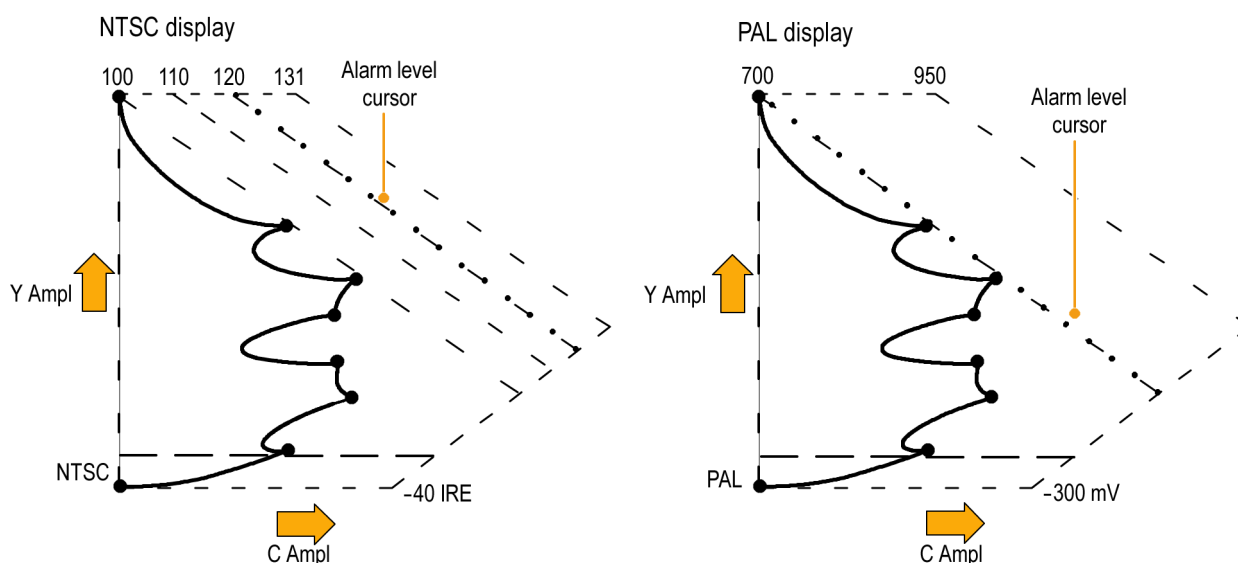

Figure 47: Arrowhead gamut display plots
The Arrowhead gamut display plots luminance (Y) against chrominance (C) to check if the composite signal adheres to standard gamut. NTSC and PAL Arrowhead displays (75% Color bars) and indicates the values of the graticule lines. The arrowhead shape of the graticule results from overlaying the standard limits for luminance and luminance-plus-peak chrominance. (See Figure 47.)